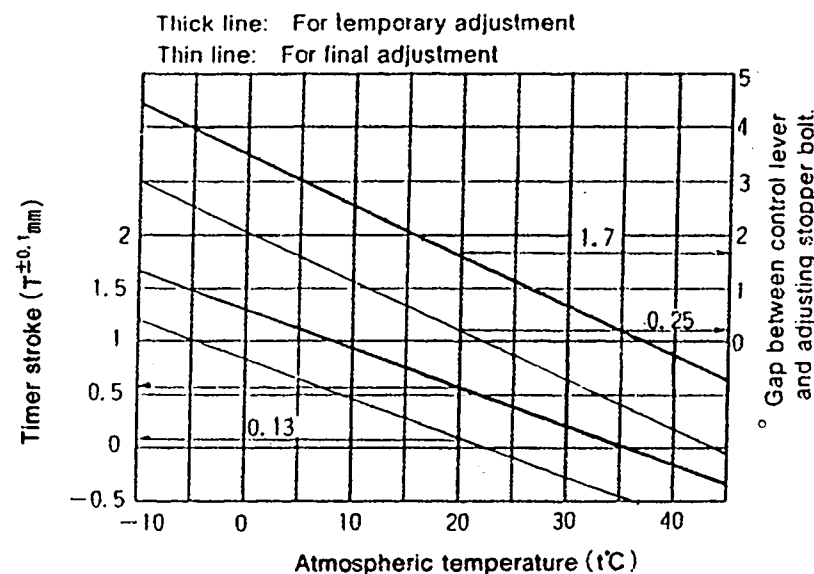

Fig. 2
1. Calculate the timer stroke from Fig. 2 according to the atmospheric temperature at the time of adjustment.
Formula for calculating Fig. 2
1. Calculate the block gauge dimension  $g \pm 0.05\text{mm}$  from Fig. 2 according to the atmospheric temperature at the time of adjustment.
2. Insert the block gauge (thickness gauge) selected in Step(1) above between the bracket and the idling stopper bolt.